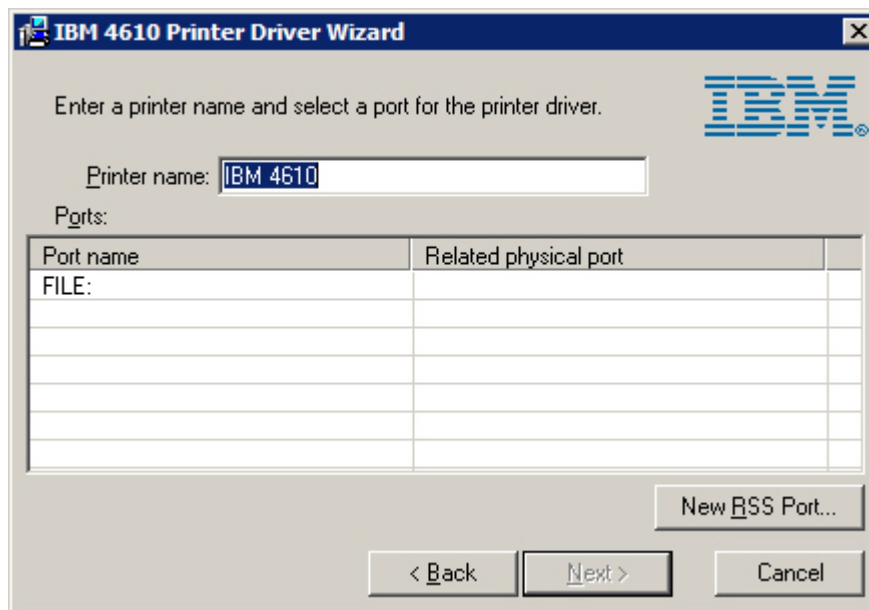

Figure 8. Setting the printer name
5. Specify the printer name that you want to use (see Figure 8).